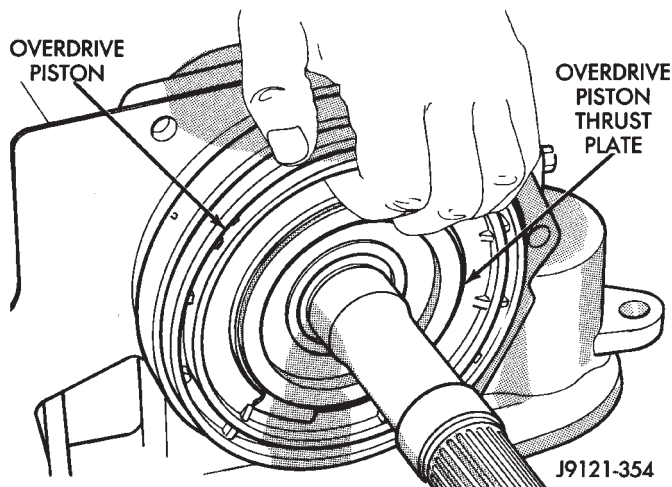

Fig. 17 Installing Overdrive Piston Thrust Plate
(9) Install thrust plate in overdrive piston hub (Fig. 17). Use liberal amount of petroleum jelly to hold thrust plate in position.